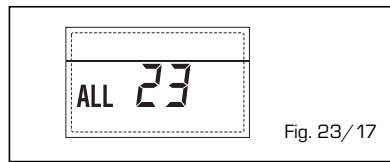

Fig. 23/17
- **ANOMALIA SONDA COLLETTORE SOLARE (S1) "ALL 24" (fig. 23/18)**